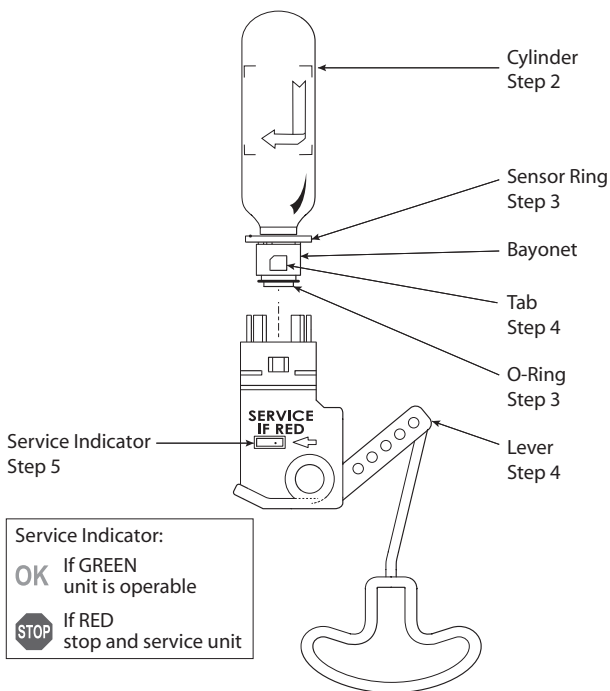

FIGURE 7 MD2015 MANUAL INFLATOR
1. Unpack or open the Inflatable PFD so that the manual inflator is exposed (Fig. 7).
3. Check the new cylinder/bayonet assembly to ensure the o-ring is in place and the sensor ring is attached (Fig. 7). Ensure that the CO₂ cylinder has not been pierced (Fig. 10).